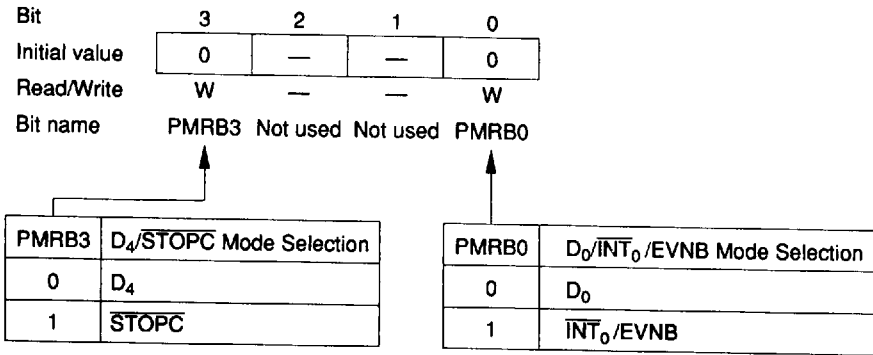

Figure 20 Port Mode Register B (PMRB)
Pins  $D_0$  and  $D_4$  are multiplexed with peripheral function pins  $\overline{INT}_0$ /EVNB, and  $\overline{STOPC}$ . Setting of the peripheral functions for these pins is executed by bits 3 and 0 (PMRB3, PMRB0) of port mode register B (PMRB: \$024) (figure 20).
- Port mode register B (PMRB: \$024): Write-only register that selects the  $D_0/\overline{INT}_0/\text{EVNB}$  pin as shown in figure 20. It is reset to \$0 by an MCU reset.